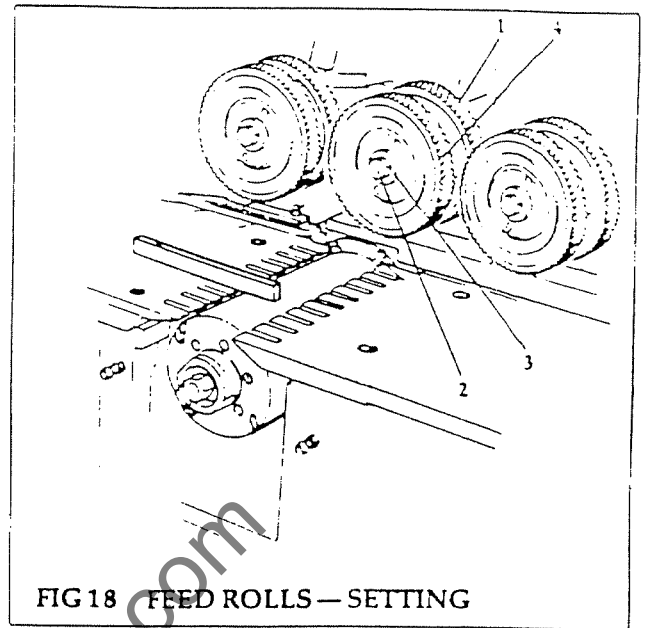
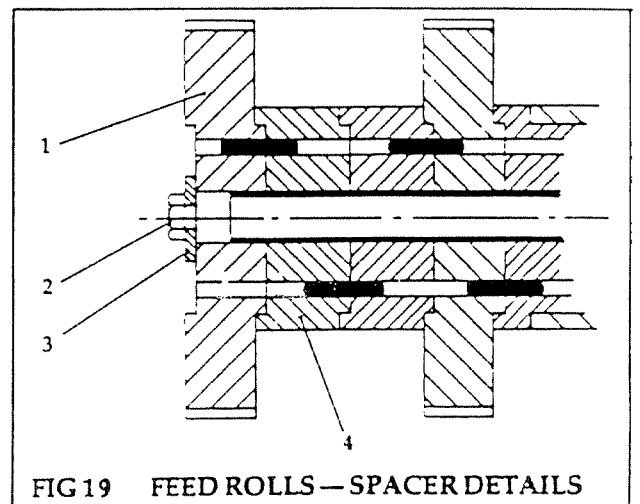

FIG 18 FEED ROLLS - SETTING
FIG 19 FEED ROLLS - SPACER DETAILS
- a. Adjust the top roller (3) by loosening one screw (4) for lateral adjustment and right hand screw (5) above the roller for height adjustment. Retighten screws.
**Set Feed Rolls (fig 18, fig 19)**
- (1) Set the feed rolls (1) to suit width and thickness of timber, ie: width of rolls is similar to width of timber.
**NOTE:** To achieve maximum traction on wide timber, it is advisable to space rolls apart (fig 19), rather than having a solid bank of feed rolls. Stagger the feed rolls at different stations using the spacing collars so that each roller runs on a different area of the top surface of the timber. Use the Control Station Rise and Fall pushbuttons to set the height of the rolls.